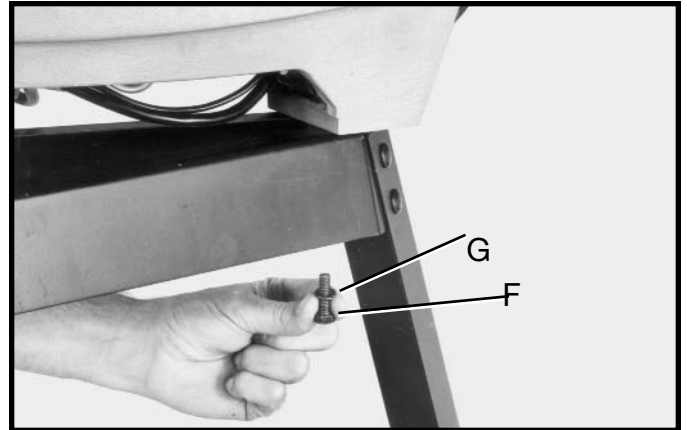
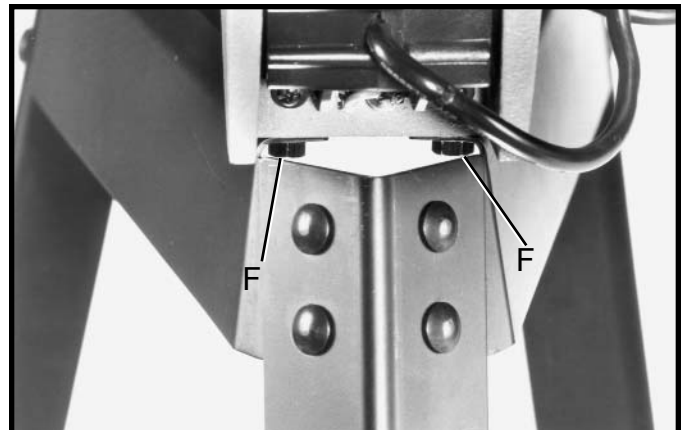

Fig. 6
Fig. 7
2. Fasten the rear of the saw to the stand using the two 5/8" long screws (F) Fig. 6, and lock washers (G). The 5/8" long screws (F) are also shown in Fig. 7, and are threaded up into the threaded holes located on bottom of saw base.